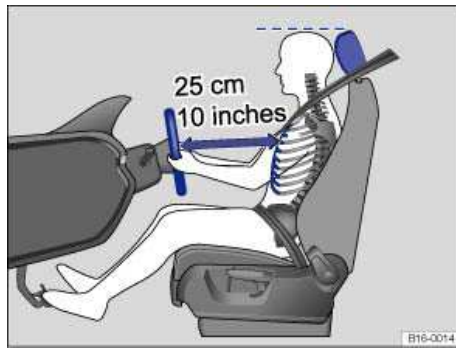
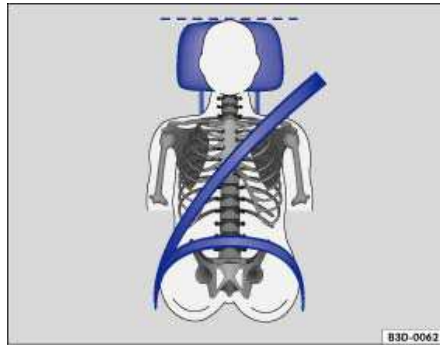

Fig. 54 The driver should never sit closer than 10 inches (25 cm) of the steering wheel.
Fig. 55 Proper safety belt positioning and head restraint adjustment.
- Adjust head restraints so that the upper edge of the head restraint is at least at eye level or higher. Position the back of your head as close as possible to the head restraint ⇒ fig. 54 and ⇒ fig. 55.
- Adjust the steering wheel so that there are at least 10 inches (25 cm) between the steering wheel and your breast bone ⇒ fig. 54. When adjusting the proper distance to the steering wheel, grasp the top of the steering wheel with your elbows slightly bent.